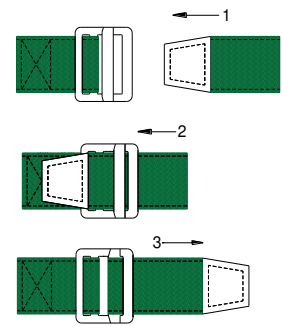

Fig. 4
- b. If friction buckle style: follow the steps in Fig. 4.